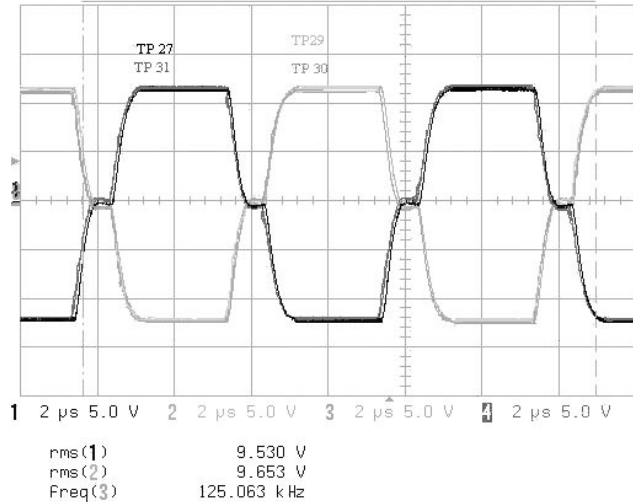

Figure 4.15 Full-Bridge DC to DC Converter Gate Switching
6. Using an oscilloscope check gate switching of the Full Bridge DC to DC Converter, as shown in Figure 4.15. Verify the phase shift at startup. Probe at TP-27, TP-29, TP-30 and TP-31. All measurements are with respect to SMPS reference.